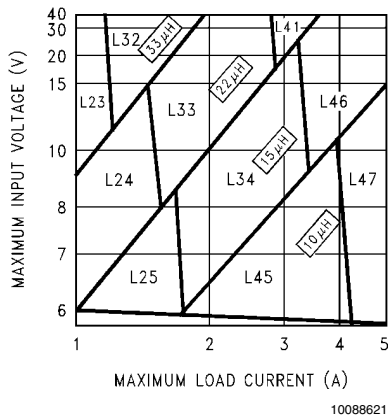
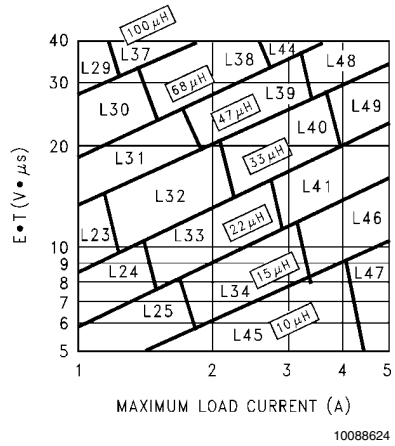

FIGURE 3. LM2678-3.3
FIGURE 6. LM2678-ADJ
Step 3: Determine the inductor required by using one of the four nomographs, *Figure 3* through *Figure 6*. Table 1 provides a specific manufacturer and part number for the inductor.
Step 5: Determine an input capacitor from Table 4 for fixed output voltage applications. Use Table 2 to find the specific capacitor type. For adjustable output circuits select a capacitor from Table 2 with a sufficient working voltage (WV) rating greater than $V_{in\ max}$, and an rms current rating greater than one-half the maximum load current (2 or more capacitors in parallel may be required).
Step 3: Use the nomograph for the 3.3V device, *Figure 3*. The intersection of the 16V horizontal line ($V_{in\ max}$) and the 4A vertical line ($I_{load\ max}$) indicates that L46, a 15 μ H inductor, is required.
Step 3: To use the nomograph for the adjustable device, *Figure 6*, requires a calculation of the inductor Volt•microsecond constant ($E \cdot T$ expressed in $V \cdot \mu s$) from the following formula:
Using *Figure 6*, the intersection of $27\text{V} \cdot \mu\text{s}$ horizontally and the 3.5A vertical line ($I_{\text{load max}}$) indicates that L48, a $47\mu\text{H}$ inductor, or L49, a $33\mu\text{H}$ inductor could be used. Either inductor will be suitable, but for this example selecting the larger inductance will result in lower ripple current.
Figure 6, selects an inductance of $22\mu\text{H}$ or less, Table 6 does not provide an output capacitor solution. With these conditions the number of output capacitors required for stable operation becomes impractical. It is recommended to use either a $33\mu\text{H}$ or $47\mu\text{H}$ inductor and the output capacitors from Table 6.